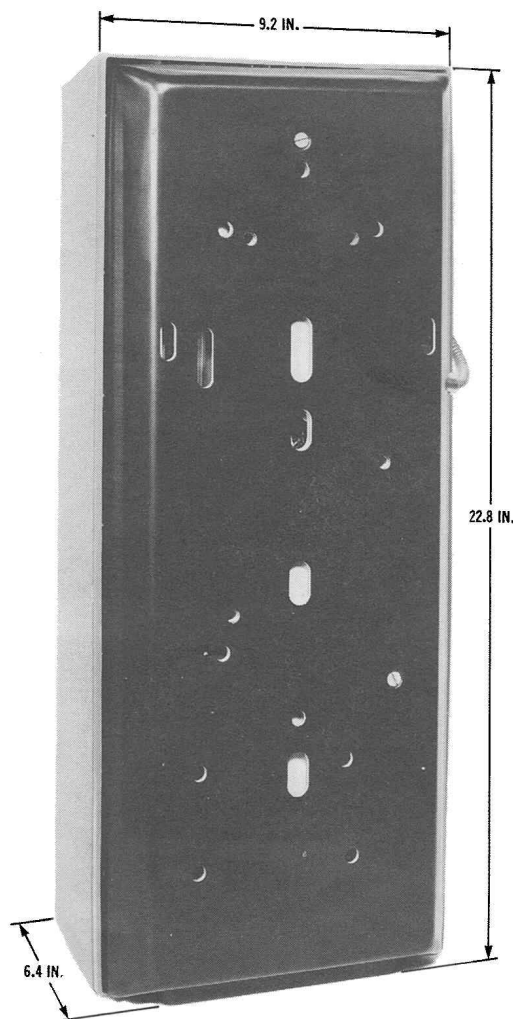

Fig. 3 — Rear View of CENTURION Coin Telephone Set
2.04 The set weighs approximately 50 pounds (22.7 kilograms). The overall dimensions are shown in Fig. 3.